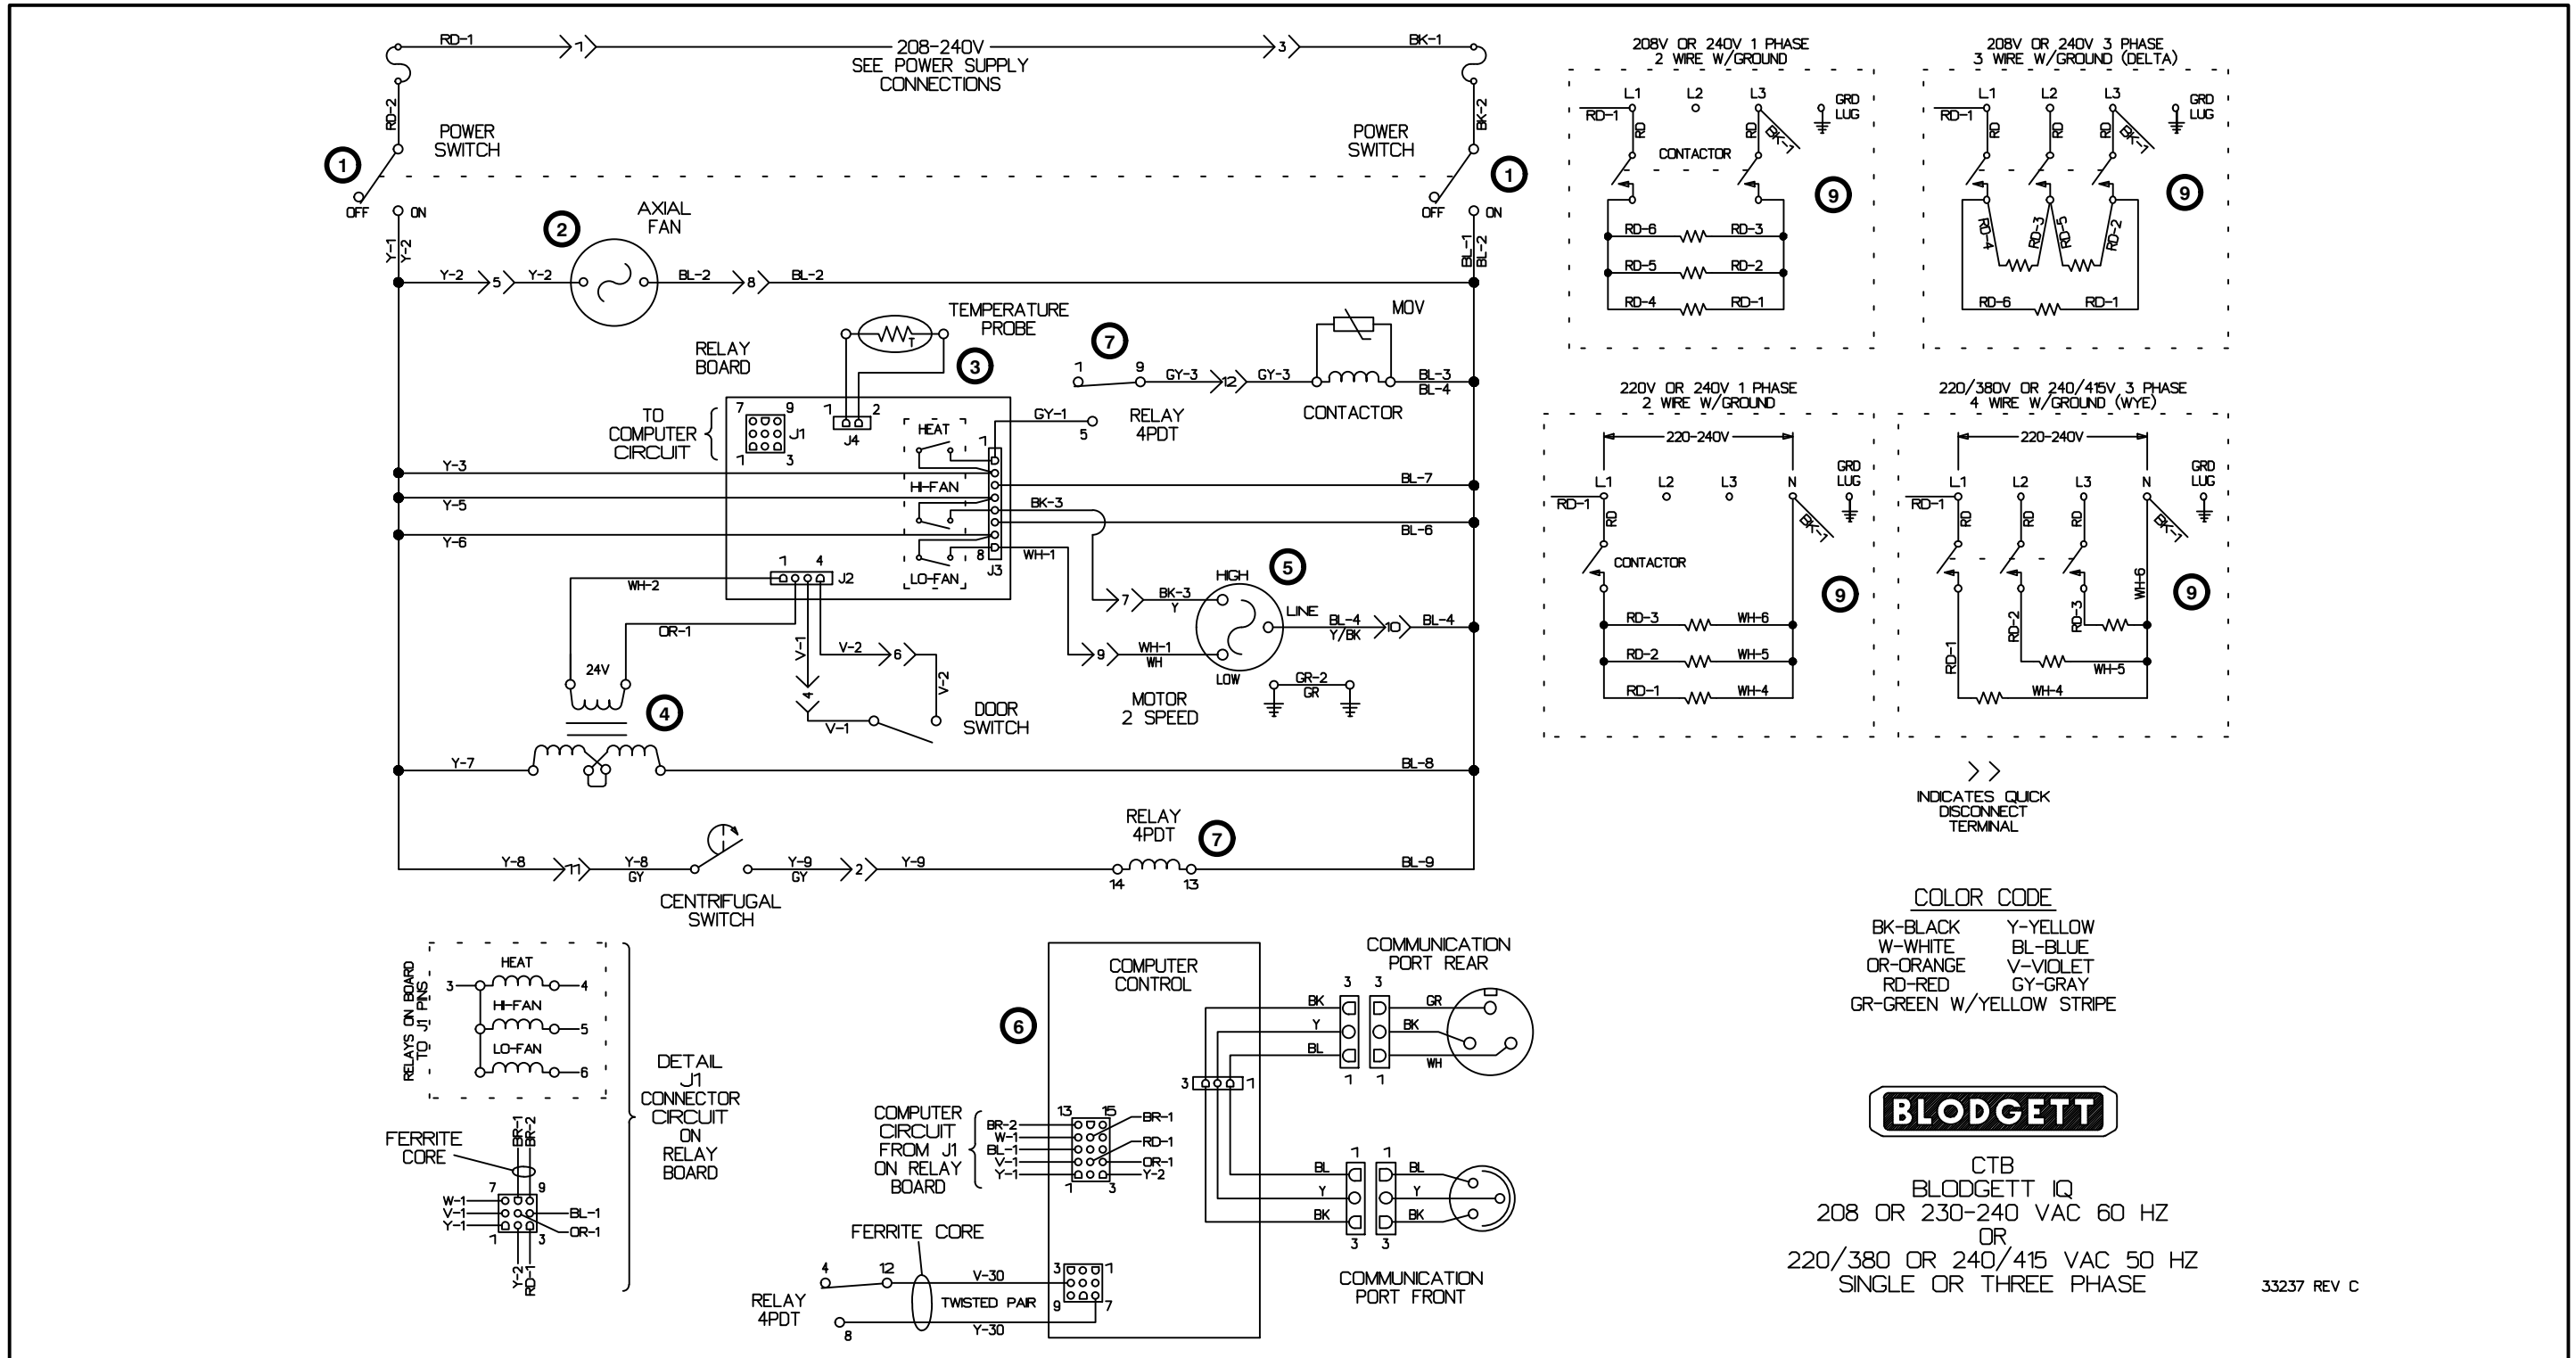

FIGURE 11
*NOTE: Refer to FIGURE 11 page 3–11 for component locations.*